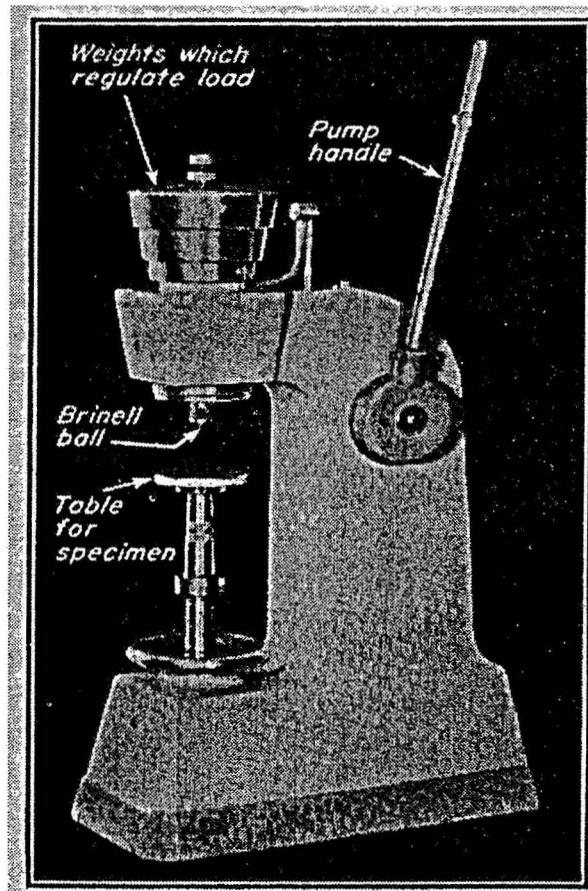
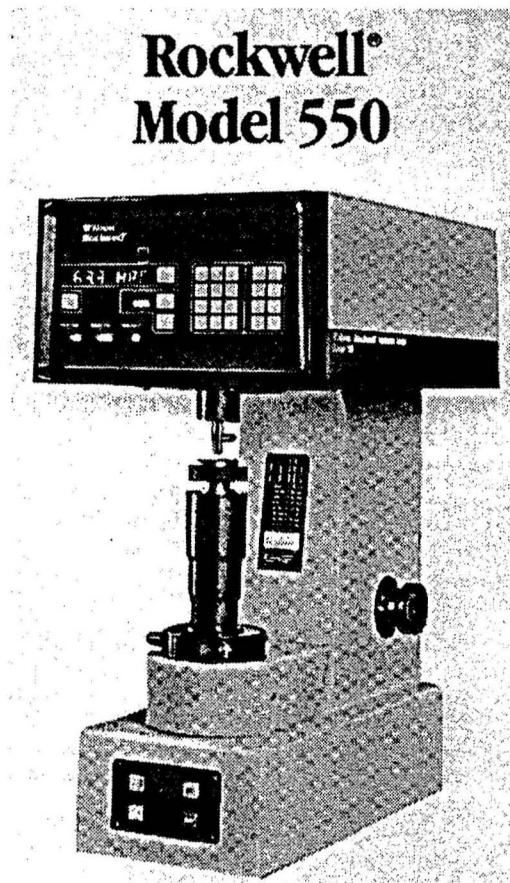

Figure 70 - Brinell Hardness Tester
Figure 71 - Rockwell Hardness Tester
- Figure 70 shows a Brinell hardness tester and Figure 71 shows a Rockwell hardness tester.